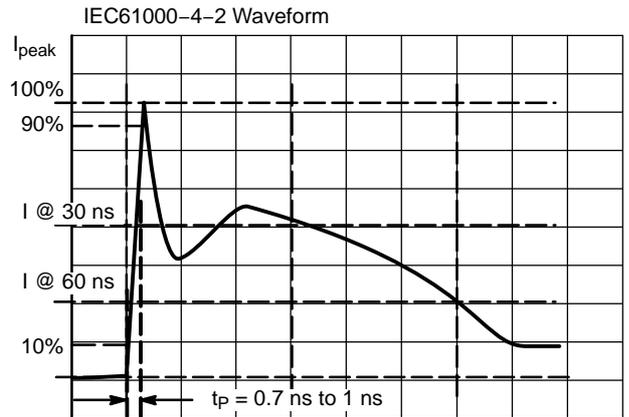

Figure 3. IEC61000-4-2 Spec
- For test procedure see Figures 3.